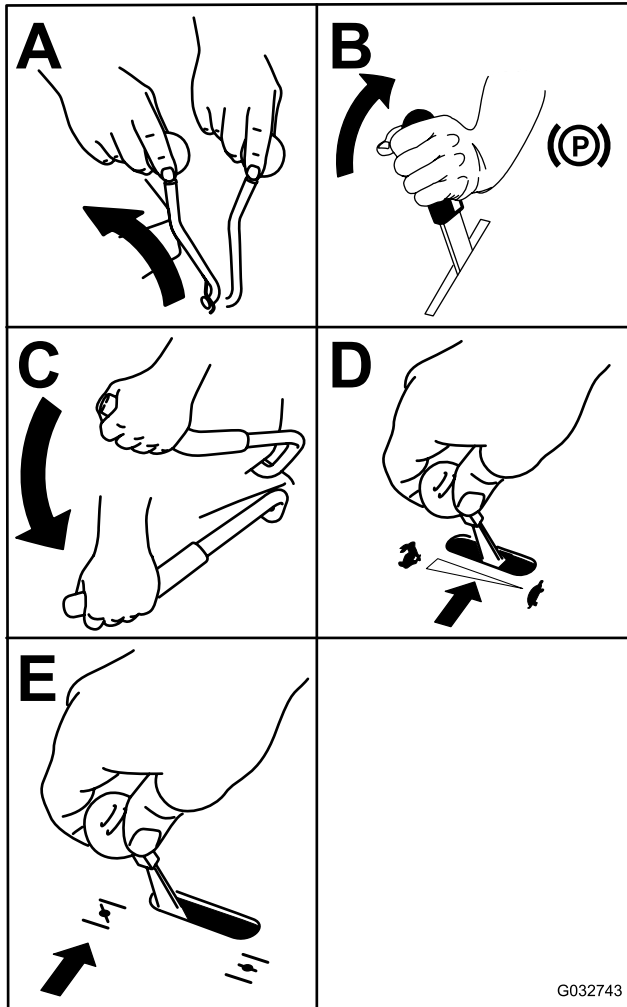

Figure 16
3. Move the PTO-engagement lever to the OFF position (Figure 16).